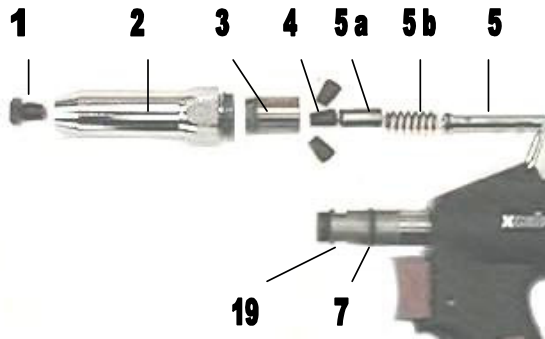

Figure 7.4.1
- 3 Unscrew the nose piece holder (item 9, figure 7.4.1) from the body, using a 24 AF spanner. Do not hit the trigger with the spanner. The nose piece (item 1) may be left on the nose piece holder. Remove the nose piece holder in its entirety.